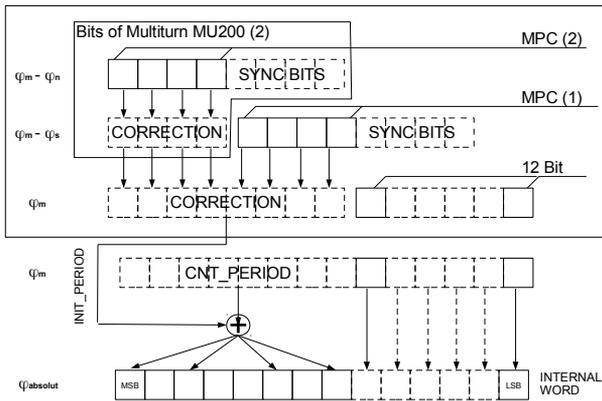

Figure 44: Principle of the synchronization of a 3-track nonius system using 2 iC-MU200 without further multitrans data
Figure 44 shows the principle of the synchronization of the data from iC-MU200 (2) to iC-MU200 (1).